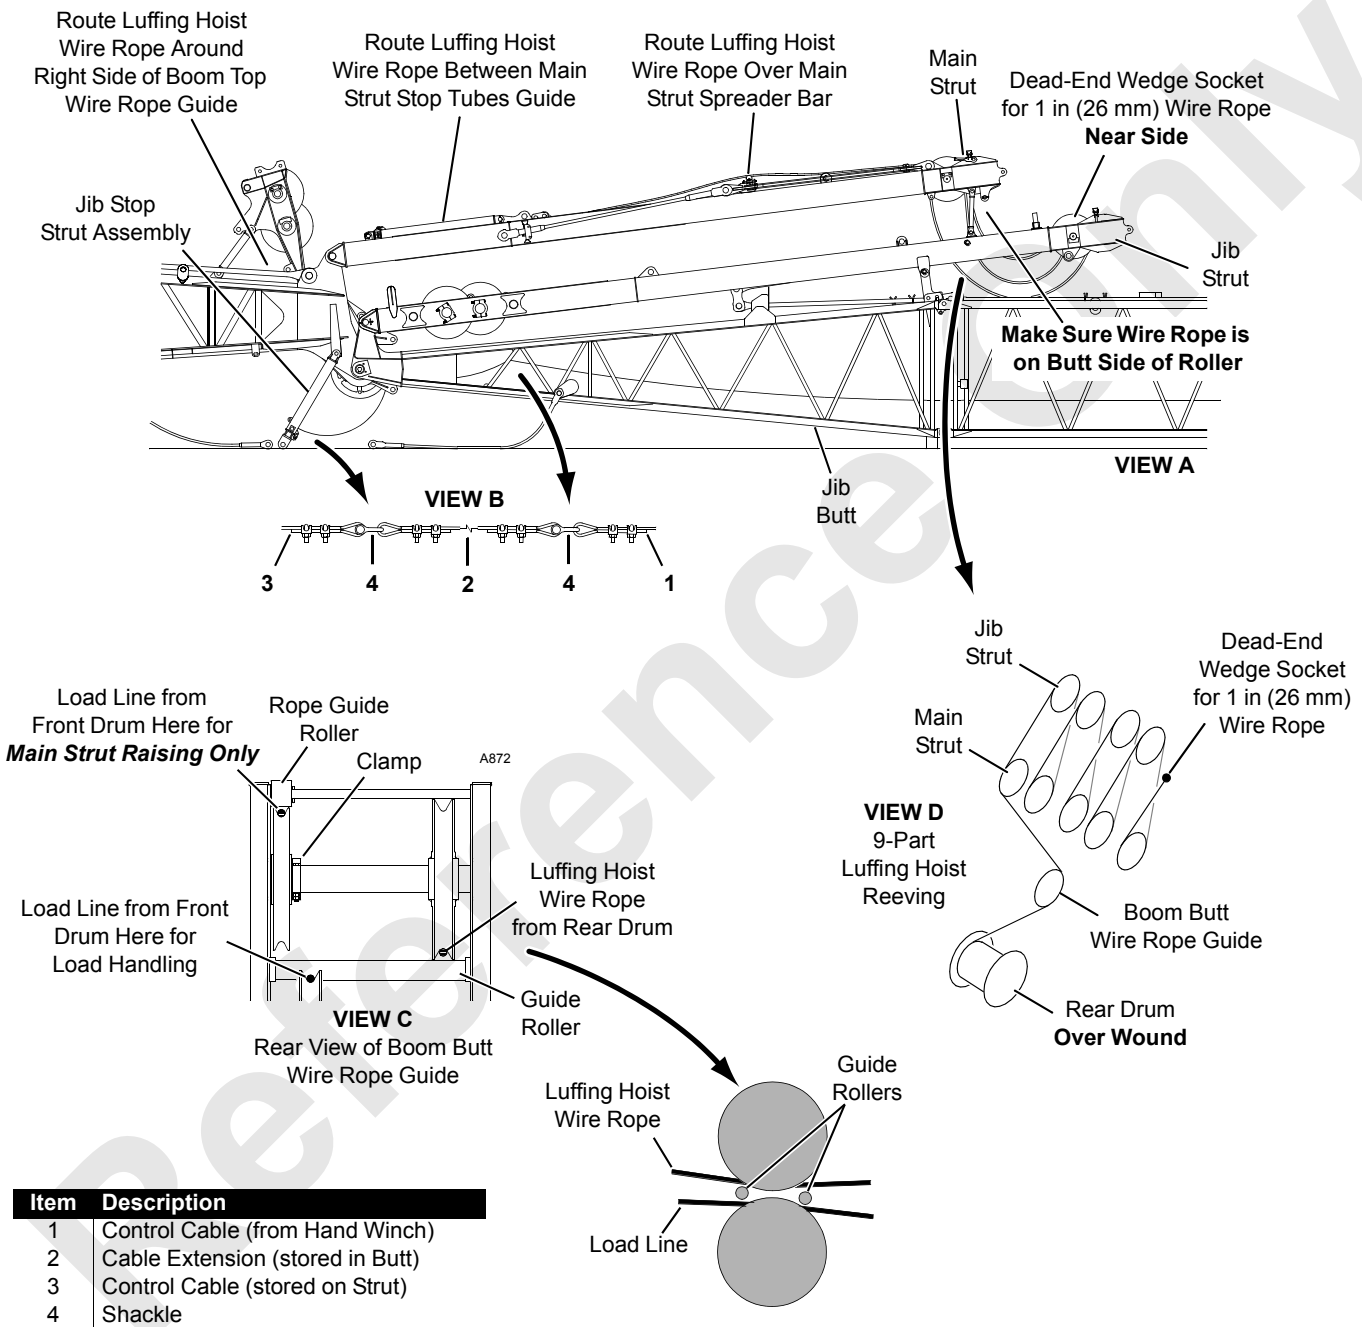

FIGURE 4-6
See Figure 4-6, View B for the following procedure.
See Figure 4-6 for the following procedure.
4. Route load line from front drum over left upper sheave in boom butt wire rope guide (Figure 4-6, View C).